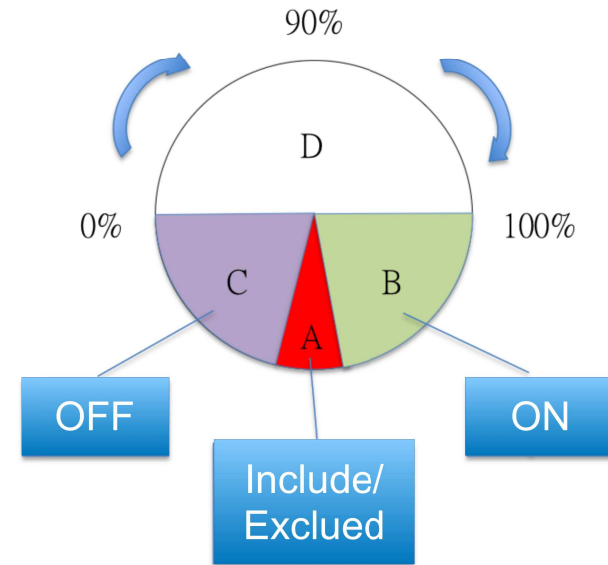

Figure 1
In the first time, add the device into the Z-Wave™ network. Make sure the primary controller is in the add mode. And then power on the device through micro USB. The device will auto start the NWI (Network Wide Inclusion). Red LED will flash every second and continue 30 seconds. And it should be included in 5 seconds. Red LED will light ON one second. If pressed the button once, The device will auto start the NWI(Network Wide Inclusion) When don't include Z-Wave™ network after NWI(Network Wide Inclusion). Rotating to area A(shown in Fig. 1) and pressed 3 times can abort NWI mode.
1. Include: Pointing the arrowhead to area A first (shown in Fig. 1). Pressing the button three times within 1.5 seconds. The red LED will light up for 1 second if succeed.
This device is able to set dimmer level by rotating to different angle. If rotating the device, The surround LED will turn white in area A(shown in Fig. 1). Rotate the device to area B(shown in Fig. 1) then pressed the button can turn On the device to group 2. Rotate the device to area C(show in Fig. 1) then pressed the button can turn Off the device to group 2. The device will send different level to group 2 in area D(show in Fig. 1) when pressed the button. It will send to group 2 automatically 1 second after rotating stop.
This device is able to work as a binary switch by pressing the button when fixed on the wall. Rotate the device to area B (shown in Fig. 1) then pressed the button can turn On the device to group 2. Rotate the device to area C (shown in Fig. 1) then pressed the button can turn Off the device to group 2.